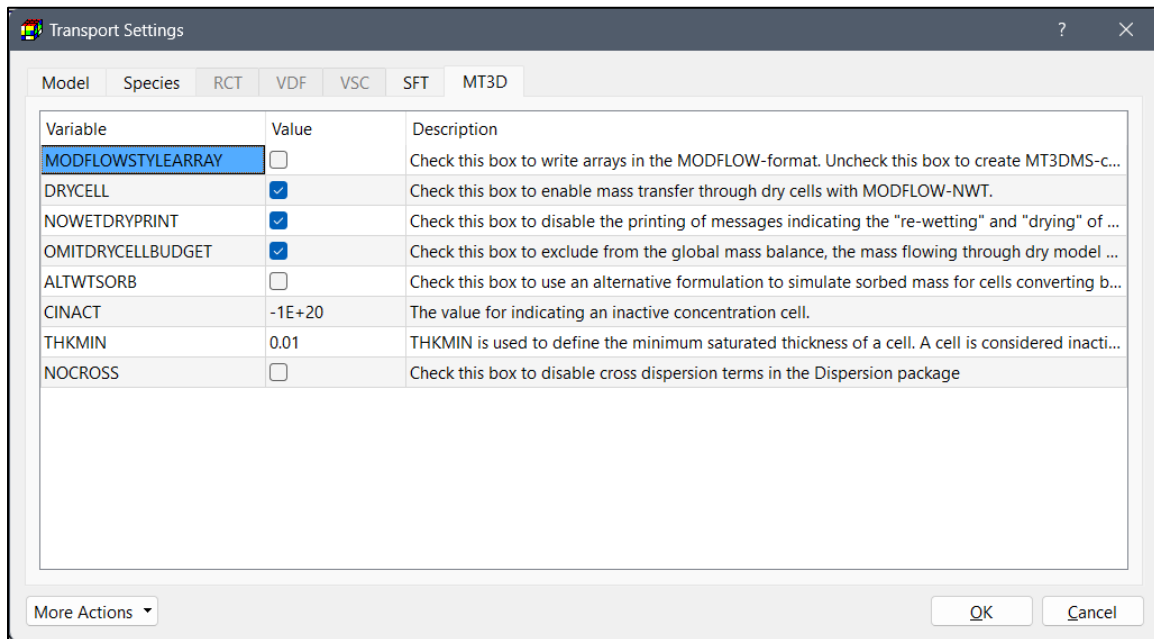

Figure 122. The MT3D tab of the Transport Settings dialog box
8. MT3D Tab (Figure 122) contains options and control data of MT3D.